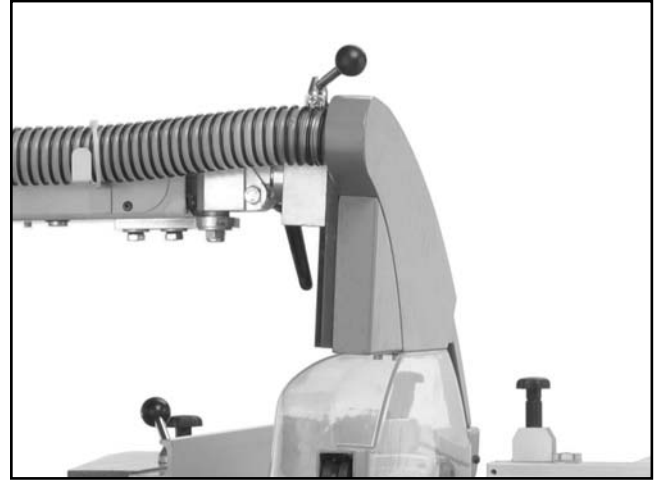

Figure 60. 2" dust port location.
3. Connect a 2" dust hose to the port located above the blade guard shown in Figure 60.